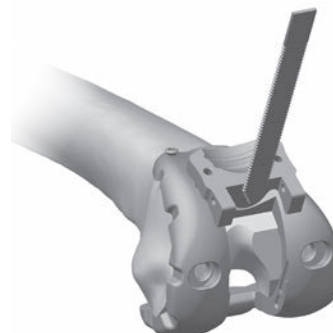

Fig. 79a
- Make the anterior to posterior PS box cut with a 1.27mm (.050 in.) thick, 1/2" wide oscillating or reciprocating saw blade, by resting the saw blade in a parallel manner on the front surface of the PS Box Cut Guide. Avoid undercutting the medial and lateral condyles. This is particularly important for smaller femurs (Fig. 79a).